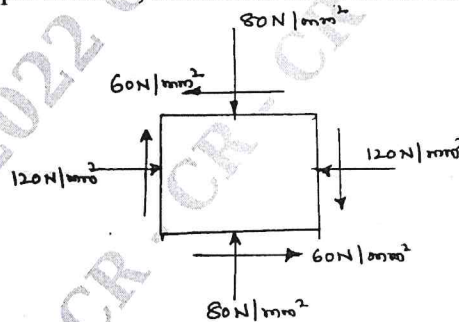

Fig Q3(c)
- c. The state of stress in a two dimensionally stressed body is as shown Fig Q3(c). Determine the principal planes, principle stresses, maximum shear stress and their planes.